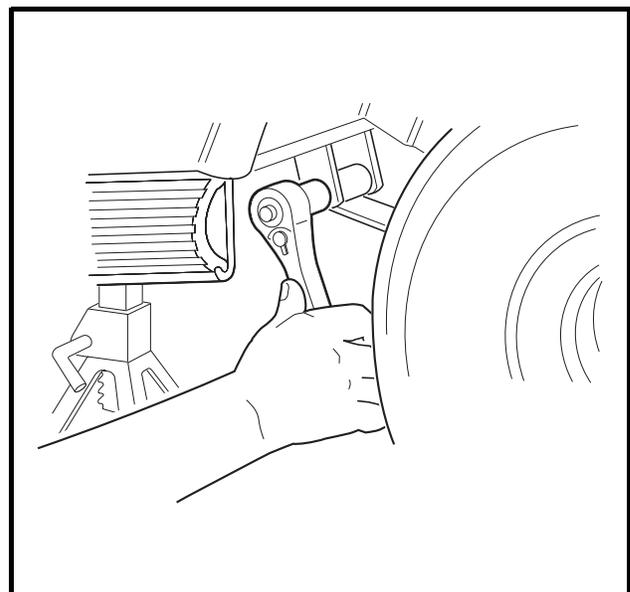

**Figure 16-21 Floor Jack**
7. Position a floor jack under the vehicle frame crossmember or trailer hitch mount (**Figure 16-21, Page 16-11**).